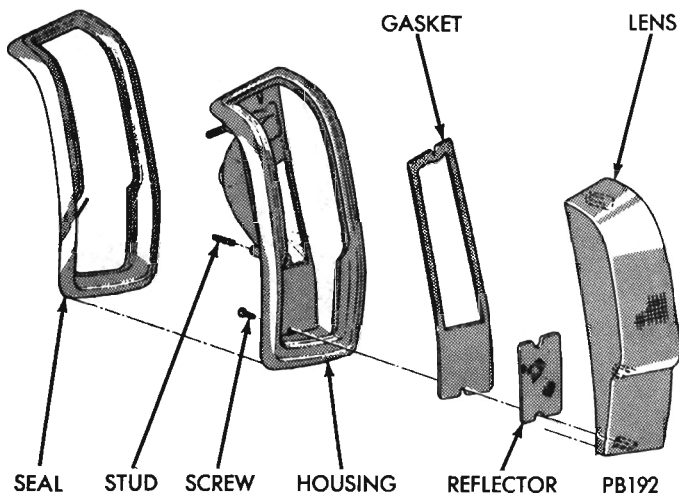

Fig. 6 - Tail, Stop, Turn Signal Lamps - Valiant Sedan
- (1) Connect lamp lead to harness through opening in bumper.
- (2) Position lamp assembly on bumper and install two attaching screws.
**Tail, Stop, Turn Signal Lamps-Valiant Sedan (Fig. 6).**
- (1) Disconnect lamp lead from harness and remove four capnuts from housing studs, working inside trunk.
- (2) Pull off housing assembly from fender.